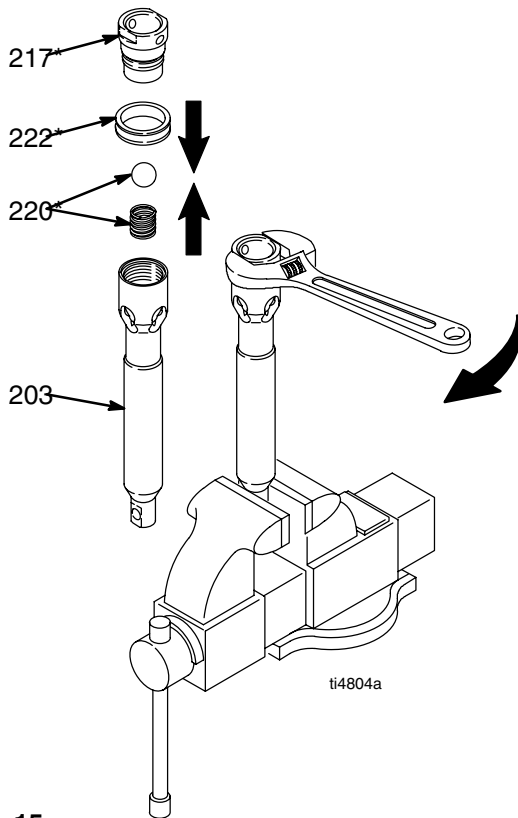

Fig. 15
1. Fig. 15. Place end of piston rod (203) in vise. Install new piston seal (222). Torque piston valve to 27 ft-lb (36.6 N·m).